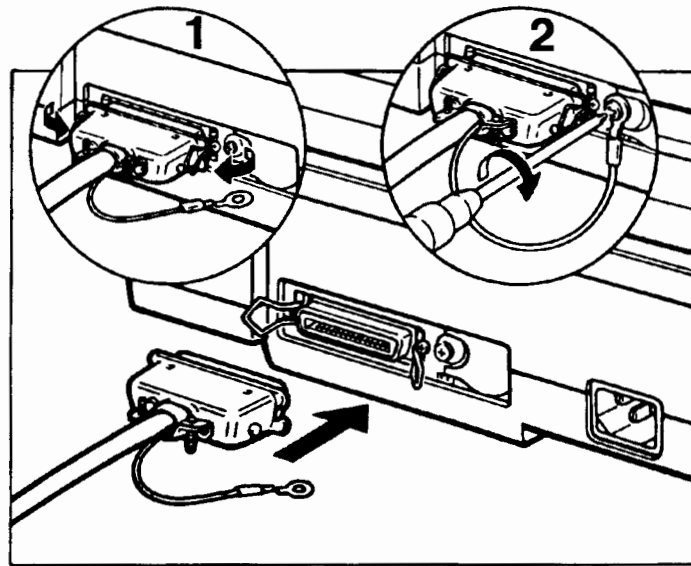

Figure 3-10. Connecting the Interface Cable to the Scanner
3. Attach the other end of the interface cable to the connector on the back of the scanner by pushing the wire loop connectors into the holders on the interface cable. See figure 3-10.
4. Remove the screw located to the right of the scanner connector, insert the screw into the loop end of the ground wire, and replace the screw in the scanner. See the inset in figure 3-10.